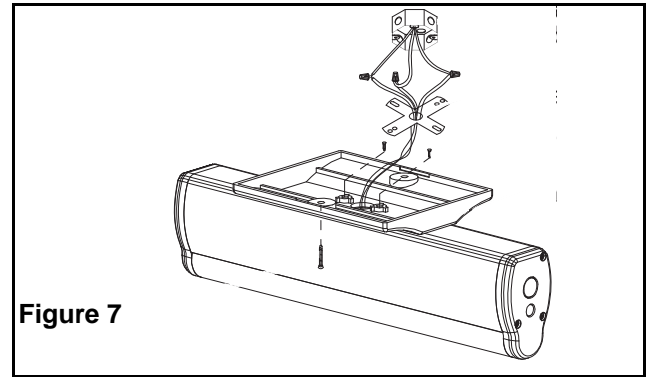

Figure 7
- e. Using provided screws, tighten canopy to the crossbar (see figure 7).